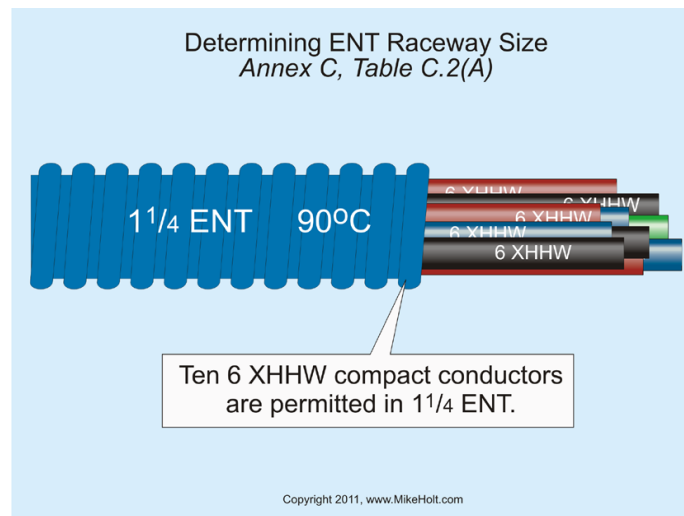

Figure 5-4
**Question:** How many 6 XHHW compact conductors can be installed in trade size 1 1/4 ENT? **Figure 5-4**